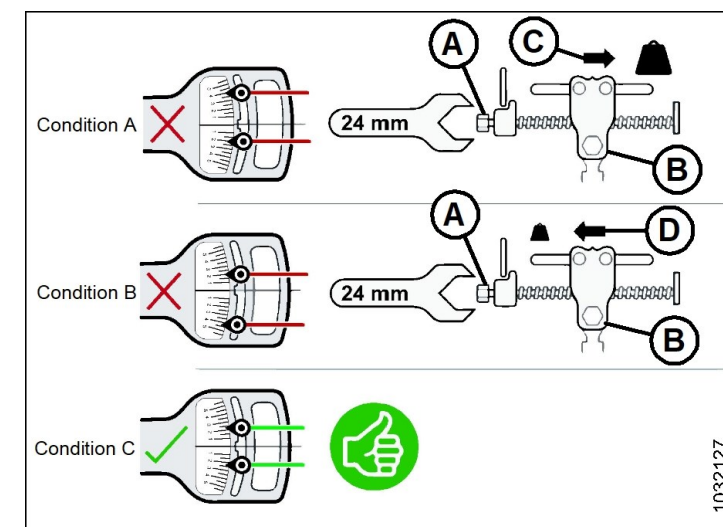

Figure 10: Wing Balance Adjustment
- Attach flex checker cable (A) to flex checker cable lock (B).
- Move spring handle (A) on the side that you are adjusting to the lower (UNLOCK) position. You should hear the lock disengaged. If not, use tool (B) to rotate mechanism so that the lock disengages.
- On flex checker plate, pinch indicators (A) and (B) together with your fingers.
- Use tool (C) to rotate flex checker plate up until pin reaches the end of slot. The lower indicator (B) will move down to give the first reading.
- Use tool (C) to rotate flex checker plate down until pin reaches the end of slot. The upper indicator (A) will move up to give the second reading.
- Refer to Figure 10 and compare the two readings as follows: